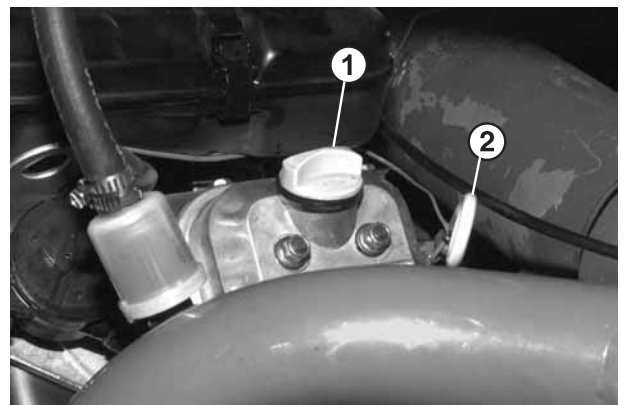

Figure 9.5.1
- 3 Remove the filler cap (Fig. 9.5.1) and refill with fresh oil up to the maximum level on the dipstick (Fig. 9.5.1). See Specification for oil grade and amount.